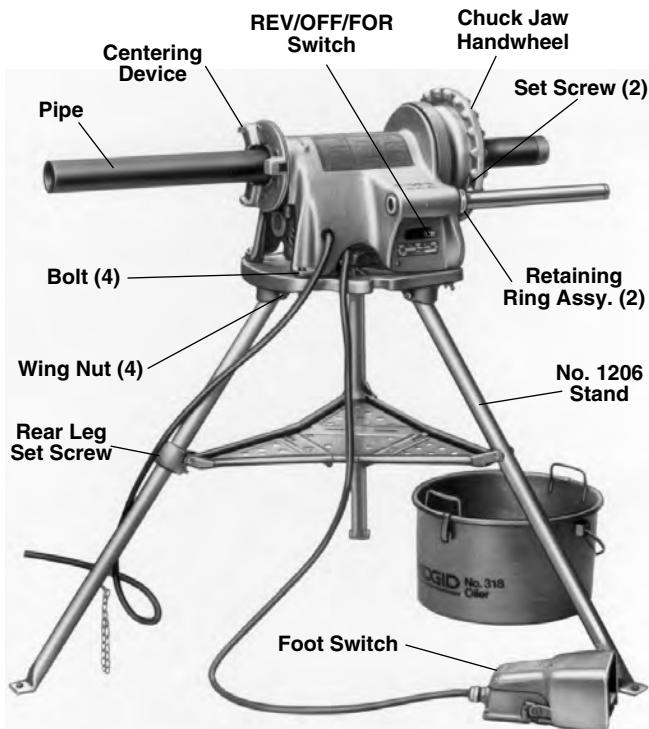

Figure 3 – 300 Power Drive Mounted on No. 1206 Stand with 418 Oiler
- Locate the set screw on the tray leg support on the rear leg (Figure 3).
2. Mount power drive on the stand using bolts and wing nuts (Figure 3).
1. Make sure Power Drive is unplugged and the directional switch is set to the OFF position (Figure 3).
4. Make sure the foot switch is present and attached to the Power Drive (Figure 3).
- 4.. If the workpiece extends more than four (4) feet beyond the Power Drive, use one or more pipe stands to prevent tipping and the oscillation of the pipe.
5. If the workpiece extends beyond the Power Drive, set-up guards or barricades to create a minimum of three (3) feet of clearance around the Power Drive and workpiece. This "safety zone" prevents others from accidentally contacting the machine or workpiece and either causing the equipment to tip or becoming entangled in the rotating parts.
6. If necessary, fill the 418 Oiler with RIDGID Thread Cutting Oil. Position the oiler under the front of the Power Drive (*Figure 3*).